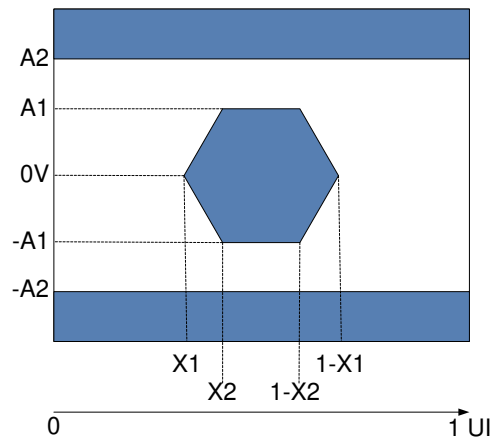

Figure 6-11. HSSI Eye Characteristics
- (1) All power supply connections are required to operate the DMD: V_{DD}, V_{DDA}, V_{OFFSET}, V_{BIAS}, and V_{RESET}. All V_{SS} connections are required to operate the DMD.
- (2) All voltage values are with respect to the ground pins (V_{SS}).
- (3) To prevent excess current, the supply voltage delta | V_{DDA} – V_{DD} | must be less than specified limit.
- (4) To prevent excess current, the supply voltage delta | V_{BIAS} – V_{OFFSET} | must be less than specified limit.
- (5) Supply power dissipation based on 3 global resets in 200 μs.
- (6) LVC MOS input specifications are for pin DMD_DEN_ARSTZ.
- (7) LVC MOS output specification is for pins LS_RDATA_A and LS_RDATA_B.
- (8) Refer to Figure 6-11, Receiver Eye Mask (1e-12 BER).
- (9) Defined in the Recommended Operating Conditions.
(5) See Figure 6-11 for rise time and fall time for HSSI Eye Characteristics.